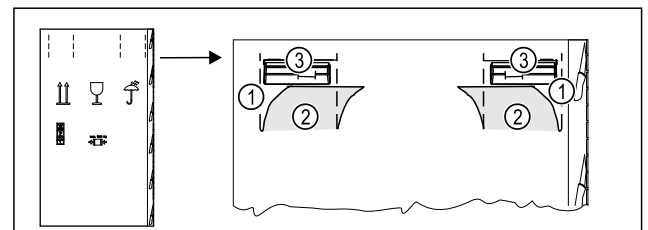

Fig. 3
- ▶ Press the packaging cardboard into the perforation Fig. 3 (1) at the top.
- ▶ Pull out any tabs Fig. 3 (2) that have been pushed in.
- ▶ Carrying handle Fig. 3 (3) visible on the right and left.
- ▶ Hold the appliance by the carrying handles Fig. 3 (3).